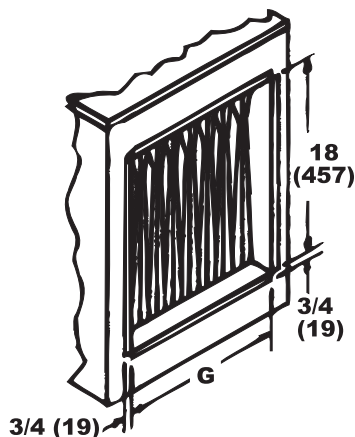

Figure 8. Ductwork Connection Dimensions (Refer to Table 7)
- **Connection dimensions:** connection dimensions (inches (mm)) are shown in **Figure 8** and listed in **Table 7**.
*See **Figure 8**.